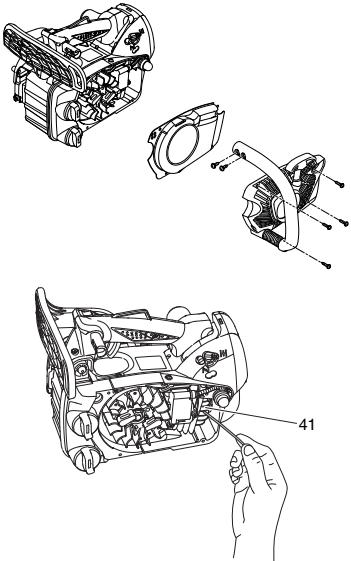

Fig. 39
**Cleaning the cylinder fins (Fig. 39)**